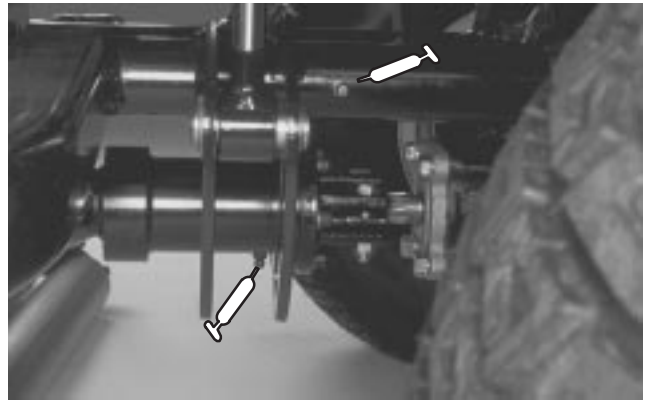
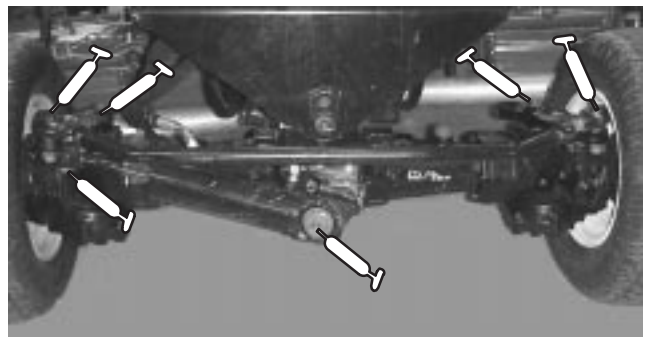
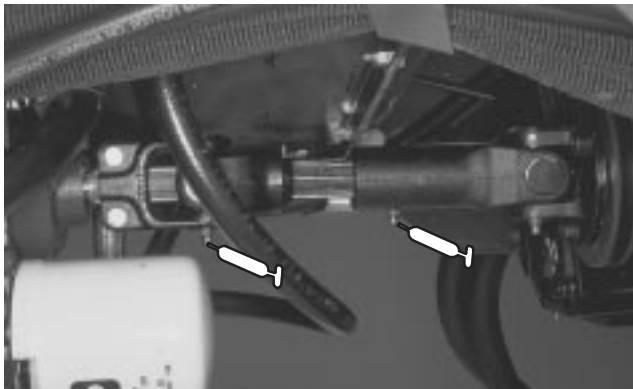
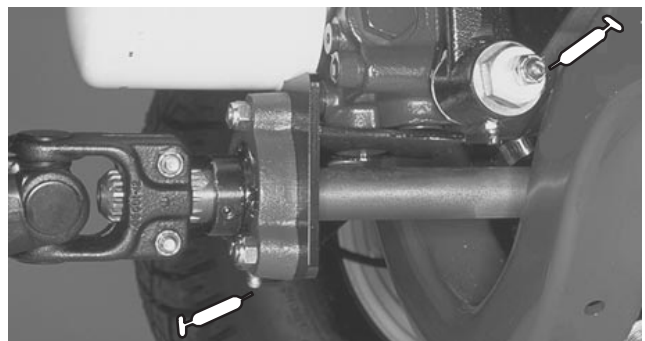

Figure 39
Figure 40
Figure 37
Figure 41
(Fig. 37 – 44)
Engine Drive shaft (3), (Fig. 37); Cutting unit carrier frame and pivot (2 ea.), (Fig. 38); Lift arm pivots (5), Drive shaft clutch (1) (Fig. 39); Rear axle tie rod (2), Steering cylinder ball joints (2), Axle steering pivots (2) Rear axle pivot (1) (Fig. 40); Traction control linkage at transmission (1), Drive shaft support bearing (1), Rear axle drive shaft (3) (Fig. 41); Brake pedal (1) (Fig. 42); Lift cylinders (5) (Fig. 43) and Fan shaft (Fig. 44).